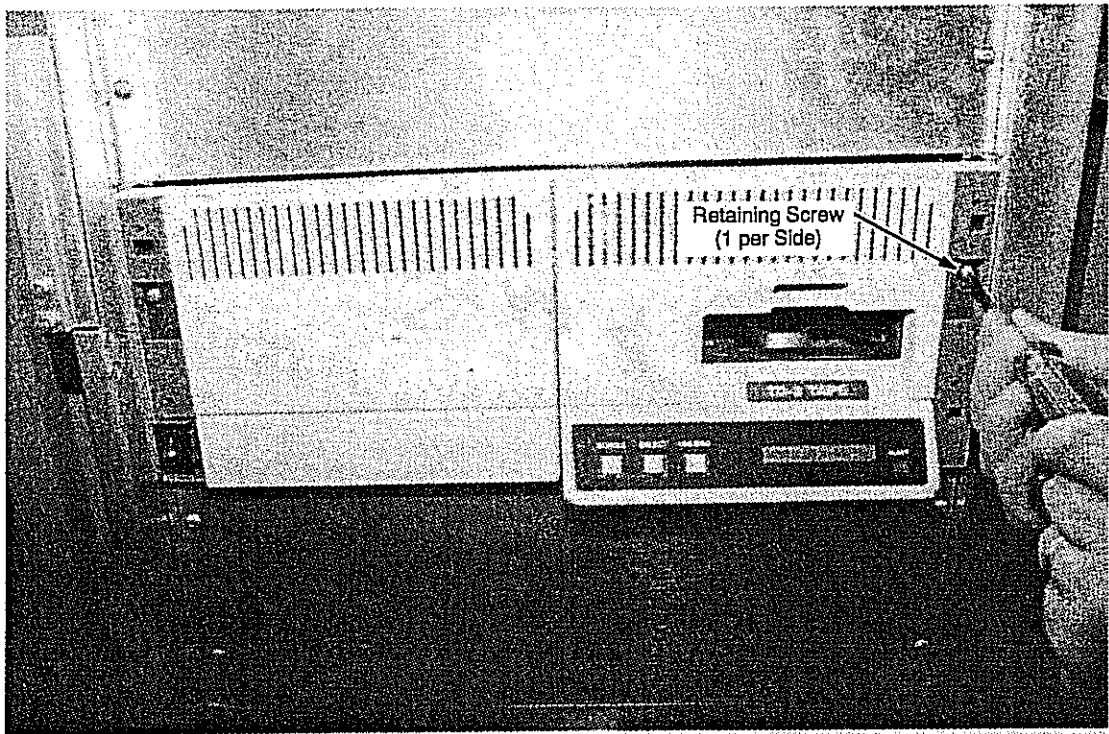

Figure 7-60. TD-3 Tape Drive Retaining Screws
4. Remove the two Phillips screws (one from each side of the drive) that secure the drive to the cabinet location. Refer to Figure 7-60.